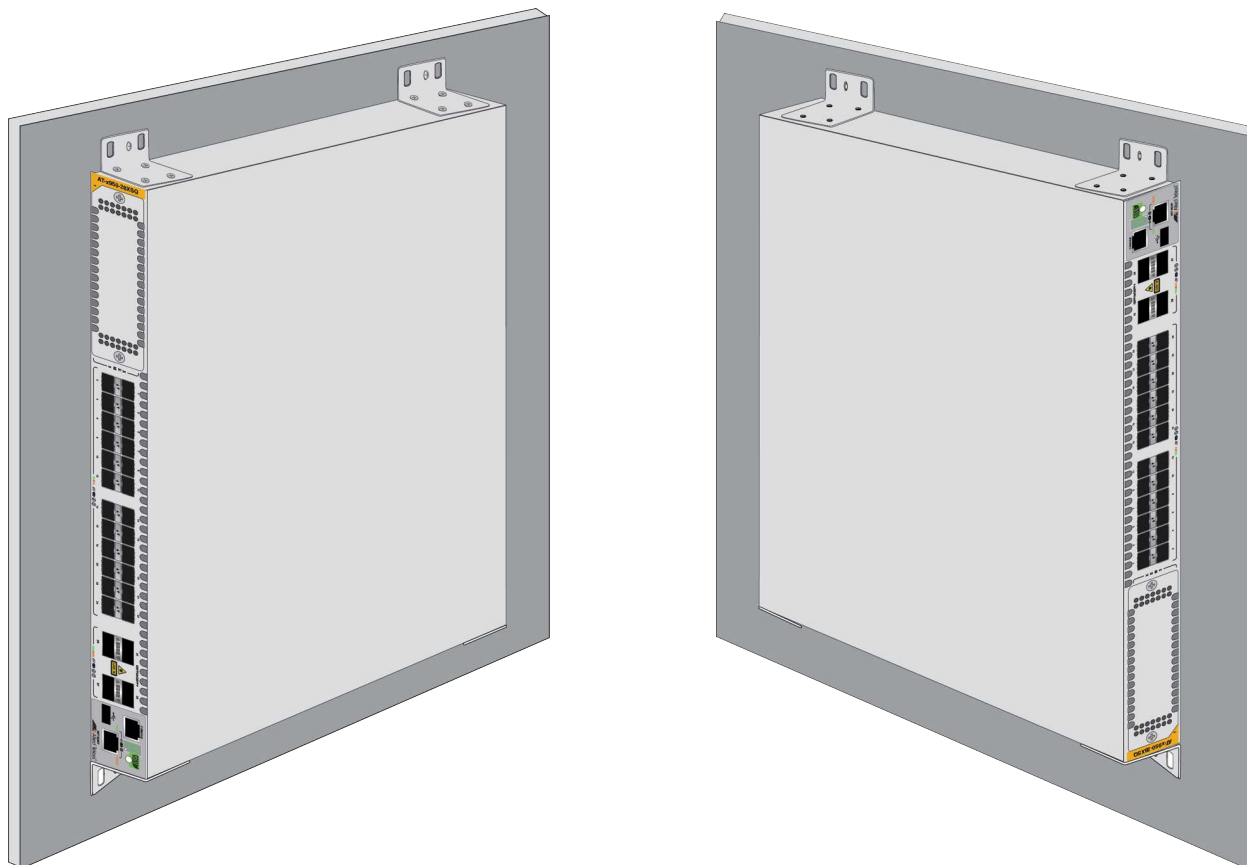

Figure 92. Positions of the Switch on the Wall
You can install the switch on a wall with the front panel on the left or right, as shown in Figure 92. Do not install it with the front panel on the top or bottom.
- ❑ Position the switch so that the front panel is either on the left or the right. Refer to Figure 92 on page 156. You may not install the switch with the front panel facing up or down.
- Position the switch so that the front panel is either on the left or the right. Refer to Figure 92 on page 156. You may not install the switch with the front panel facing up or down.